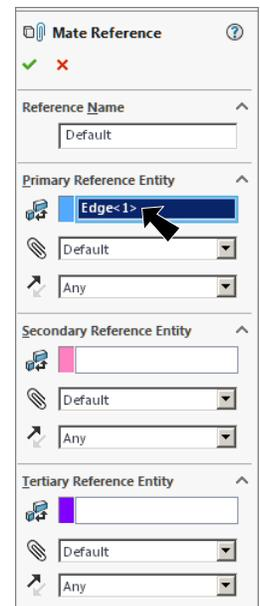

Fig. 15
Step 3. In the Mate Reference Property Manager click OK , **Fig. 15**.